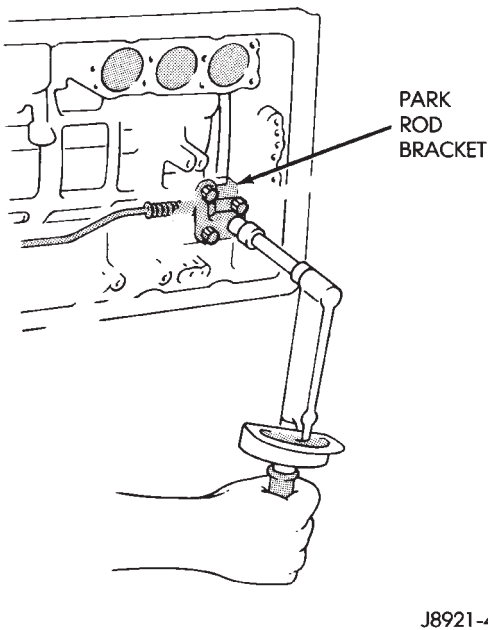

Fig. 26 Installing Park Rod Bracket
(16) Install park rod bracket (Fig. 26). Tighten bracket bolts to 10 N·m (7 ft. lbs.) torque.
(17) Install valve body, oil screen and oil pan. Use Mopar or Loctite 599 sealer on oil pan seal surface.
(18) Install park/neutral position switch.